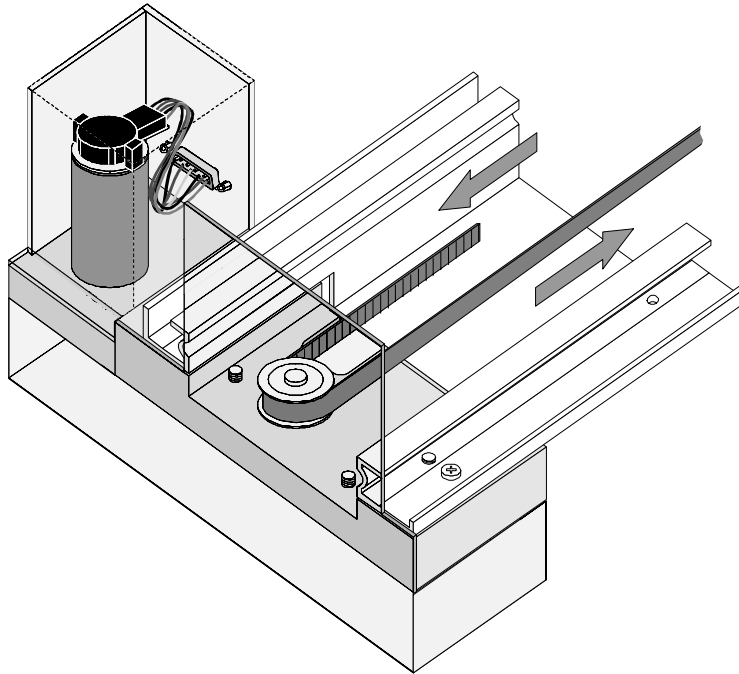

Figure 2-5 Threading the Belt Through the Drive Section
Refer to Figures 2-5 through 2-9.
6. Referring to Figure 2-5, thread the left end of the belt counter-clockwise around the motor drive pulley.